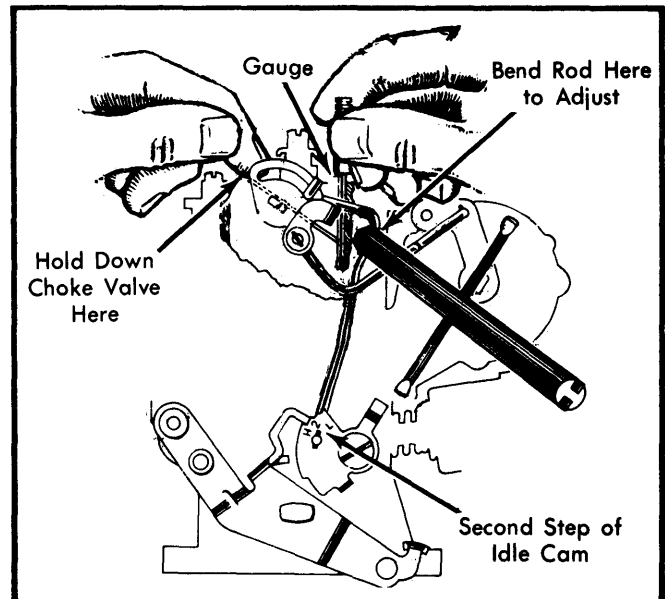

Fig. 4 Adjusting Choke Coil Rod
- 1) Make sure fast idle speed is correctly set. Place fast idle cam follower on SECOND step of fast idle cam, against HIGHEST step. See Fig. 4.